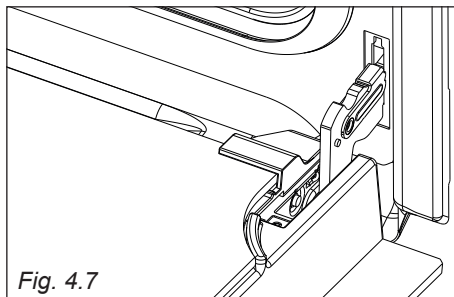

Fig. 4.7
- Open the door to the full extent (fig. 4.7).